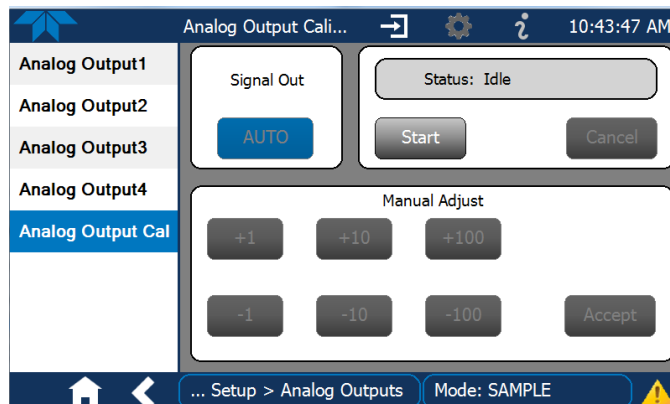

Figure 2-39. Analog Outputs Group Calibration Screen
- AUTO for group calibration (Figure 2-39) of the analog outputs (cannot be selected when Current is selected for the Range)